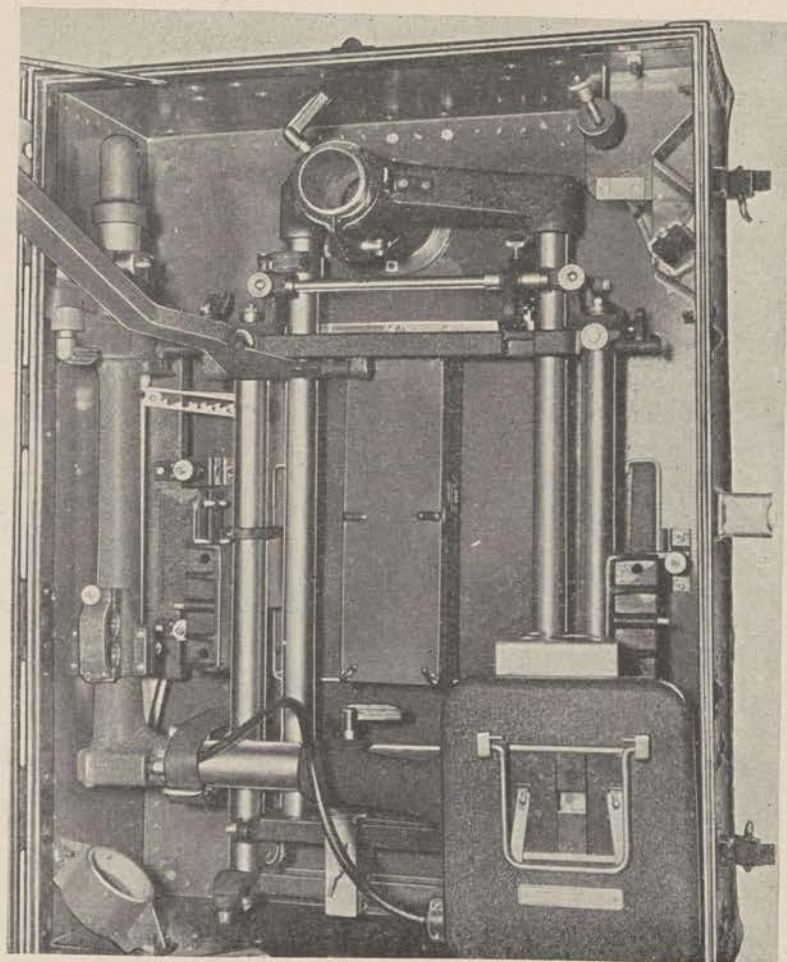

Figure 64. Large trunk, part No. 9R05767 without angulating housing.
- n.* Replace the **L** member assembly and shutter. (See fig. 64.) Secure the assembly by means of the **L** member clamp, the saddle strap, and the shutter arm clamp.